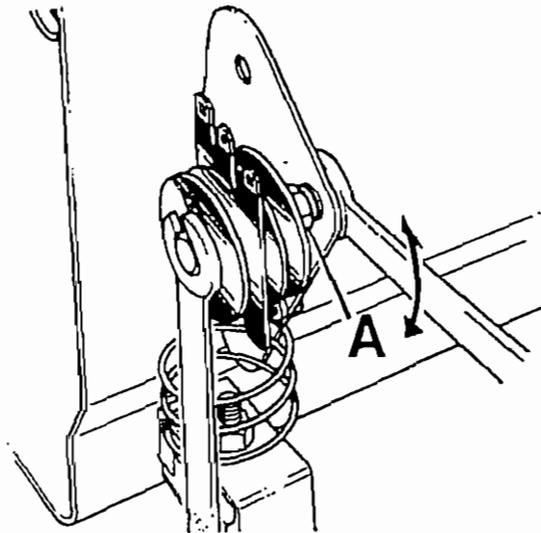

Fig. H7. Refitting the rectifier
**Note.**—The nuts clamping the rectifier plates together must not be disturbed or slackened in any way. NEVER disturb the nut "A", shown in Fig. H7.
When tightening the rectifier securing nut, hold the spanners as shown in Fig. H7, for if the plates are twisted, the internal connections will be broken.